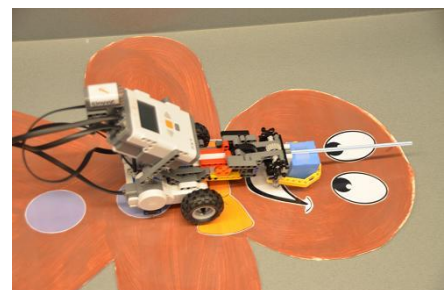

Figure 2
3. Drives the robot to the starting point (top of head or bottom of foot). Releases the craft stick. Secures the craft stick with sticky tack. See Figure 2